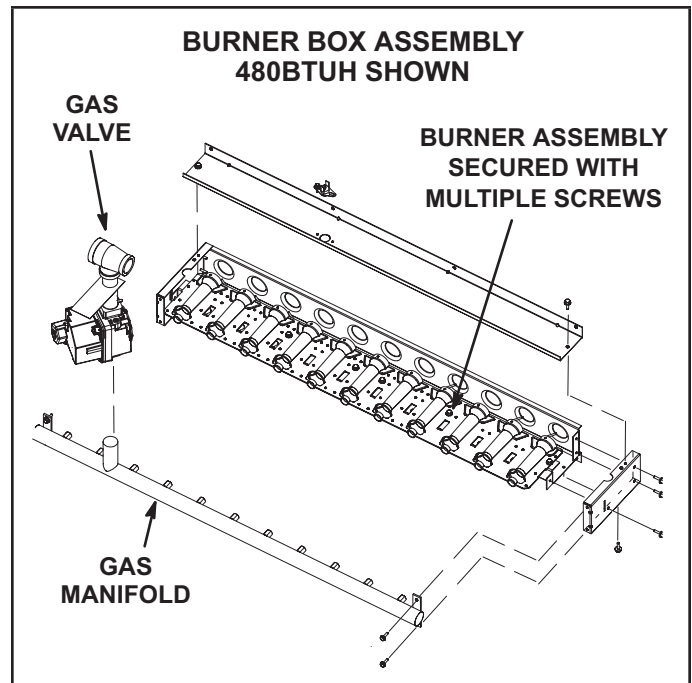

FIGURE 35
- 3 - Remove screws securing burner assembly to burner support and remove assembly. See FIGURE 35. Clean as necessary.